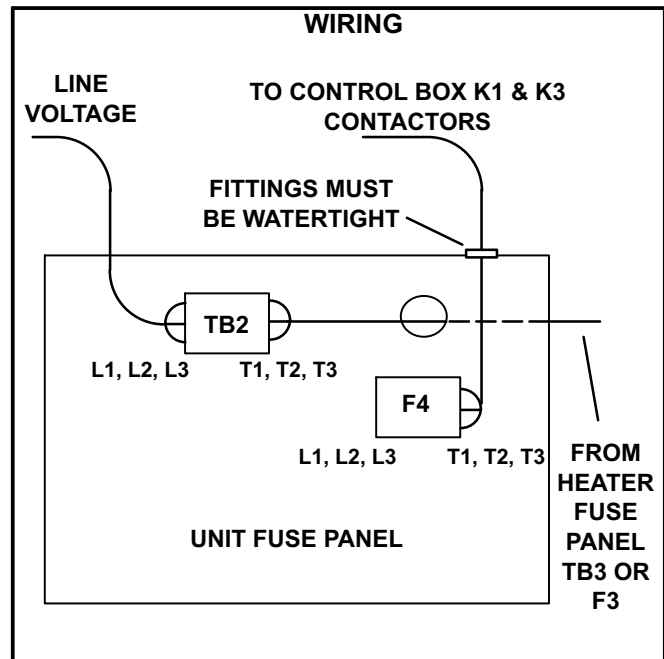

FIGURE 3
- 9- Make wire connections as shown in figures 3. Also refer to wiring diagram on unit and instruction provided with electric heat assembly.